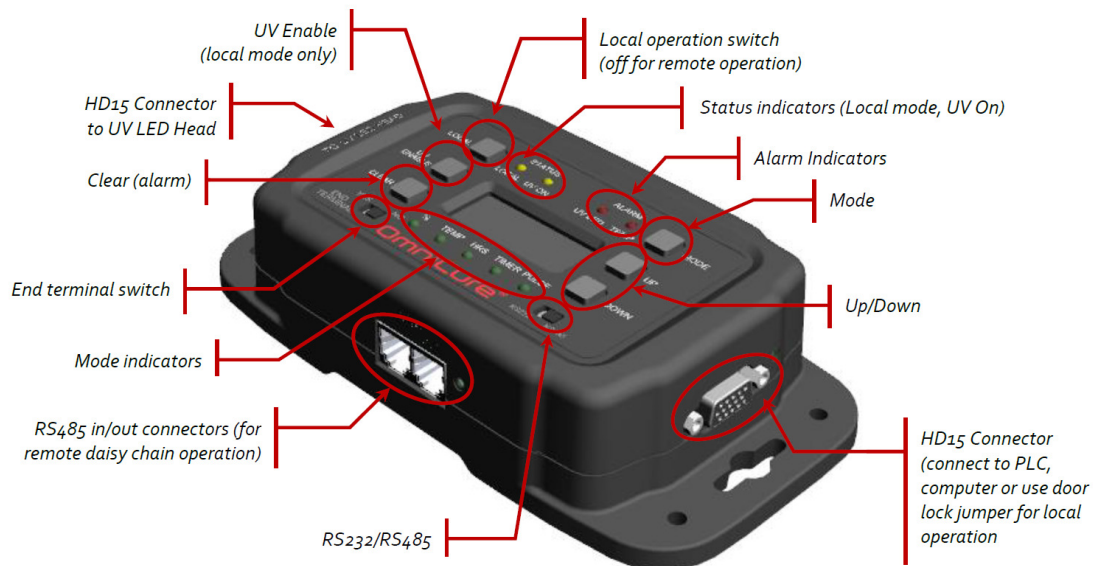

Figure 2 PLC Console
4. Connect the PLC loop-back connector to the PLC pass-through port (see Figure 2).
6. Adjust intensity using the up or down buttons to the right of the display (see Figure 2). to increase and decrease the intensity respectively. Refer to Section 6, "Using the LED Head"
7. UV LED & Temperature faults will be indicated by an illuminated LED on the control console. To clear, press the Clear Fault button (see Figure 2).